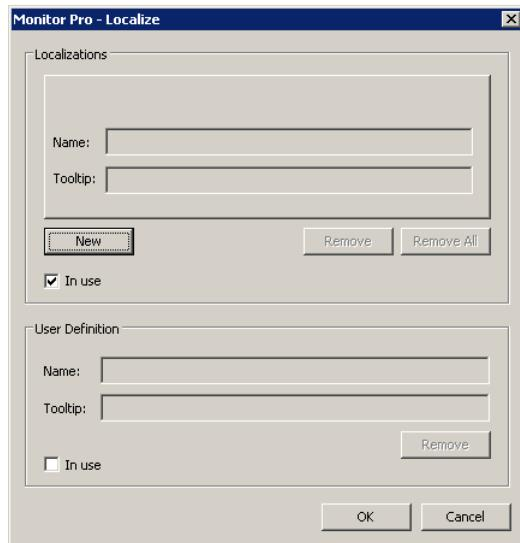

Figure 238: Localization dialog
2. Right-click a component and select **Localize** to open the Localize dialog, see Figure 238.
1. Select the **In Use** check box in the Localizations field, see Figure 238.